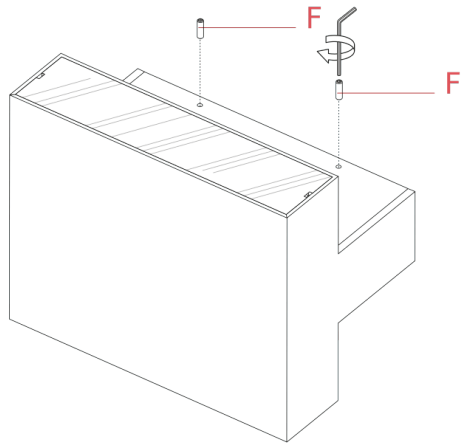

Fig.1
- Unfasten the screws (F) through the Allen key tool (E). (Fig.1)